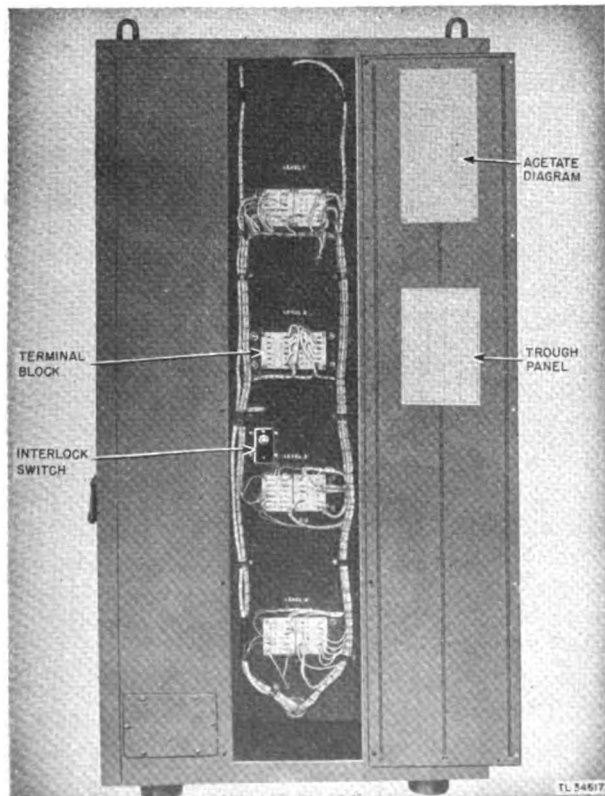

Figure 23. Wiring channel of Rack FM-80.
- a. LOCATION (fig. 23).
- (1) The interconnector plugs for—
- (2) The interlock for mechanical operation.
- (3) Cables: